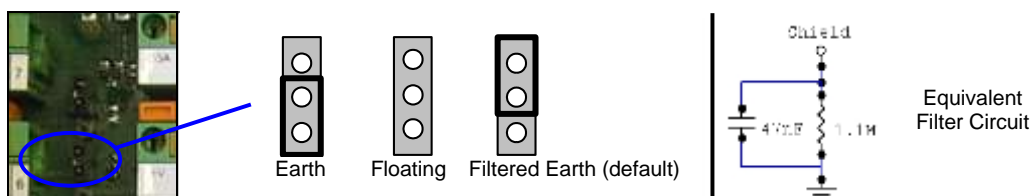

Figure 7—Source Shield Jumper Settings
- Connect the reading device chassis to earth ground through the jumper, (default setting, see Figure 7).